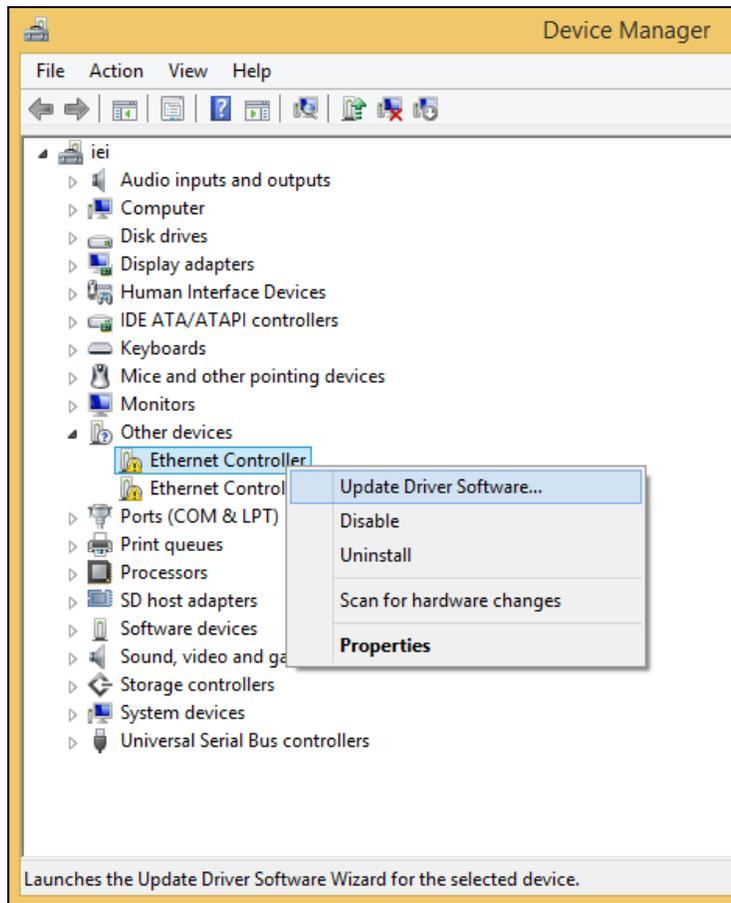

Figure 6-15: Device Manager List
- Step 4:** A list of system hardware devices appears (**Figure 6-15**).
- Step 6:** Select **Update Driver Software**. See **Figure 6-15**.
Step 12: Right-click the other Ethernet controller that has question marks next to it as shown in **Figure 6-15**. Repeat **Step 6 – Step 11** to install the second Ethernet controller driver.